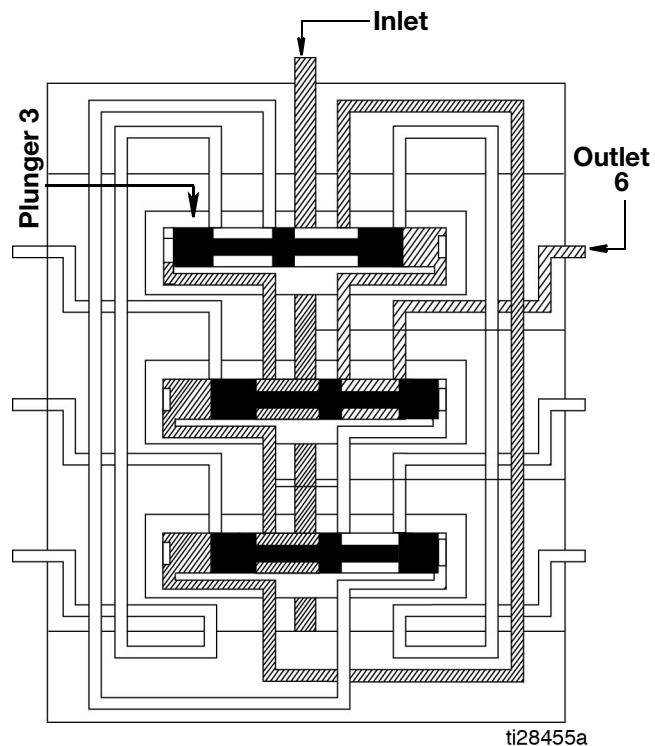

FIG. 12
2. Plunger 3 opens, delivering lubricant to Outlet 6 (FIG. 12).